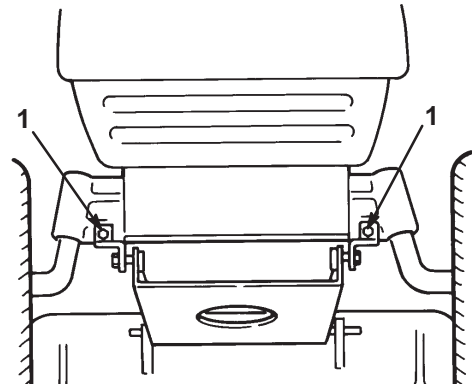

Figure 37
11. Install the mower pivot mount brackets to the front axle with bolts and locknuts (Fig. 37).